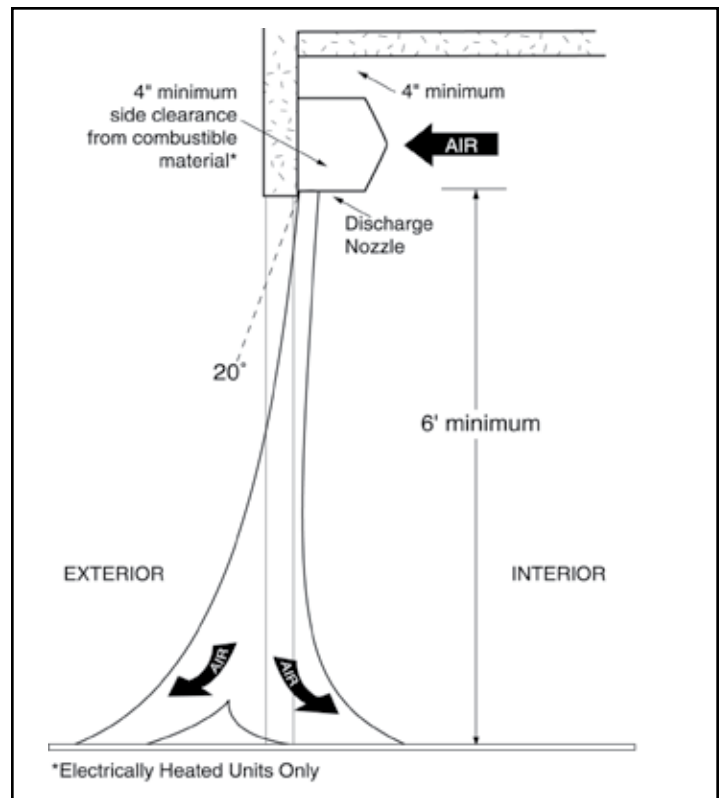

FIGURE 1 - Air Stream
- When determining the mounting location for the unit(s), make sure that nothing interferes with the curtain of air developed when the discharge vanes are directed from 0° to 20° toward the door opening. If the air stream strikes any obstruction (the top edge of the doorway, a door opening device, etc.), the effectiveness of the unit will be greatly reduced. **See Figure 1.**